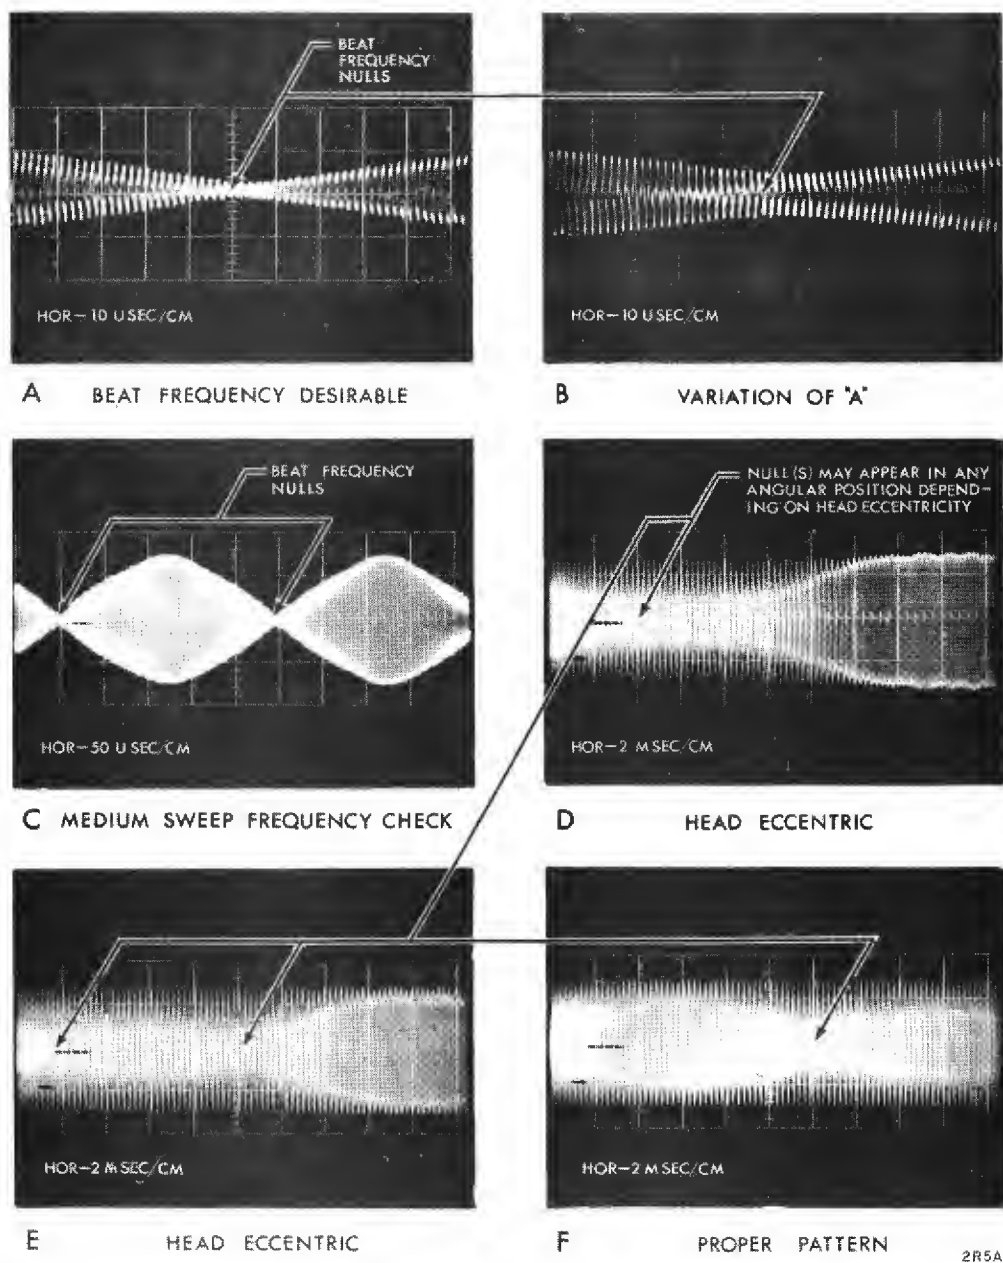

Figure 6-5. Head/Arm Adjustment
16. Determine which way the head/arm must be moved to appear as shown on Figure 6-5, part C. Detent the carriage at Track 35.
19. Set the oscilloscope to display one complete revolution of the disk (2 ms/cm). The beat frequency display will now be seen as a bright pattern or envelope of nulls within the all "1's" frequency pattern (Figure 6-5, part D or E).
20. Slowly adjust the head/arm assembly toward the spindle. The envelope of nulls will come to an absolute null at one point, and then will develop into a pair of absolute nulls, with lobes of greater amplitude between. The head/arm is properly aligned over Track 35 when the maximum amplitude of the two envelopes is equal to within 20 percent (Figure 6-5, part F). Tighten the two adjacent wrenching nuts at the head/arm clamp. Repeat this procedure (from step 14) for any adjacent heads.